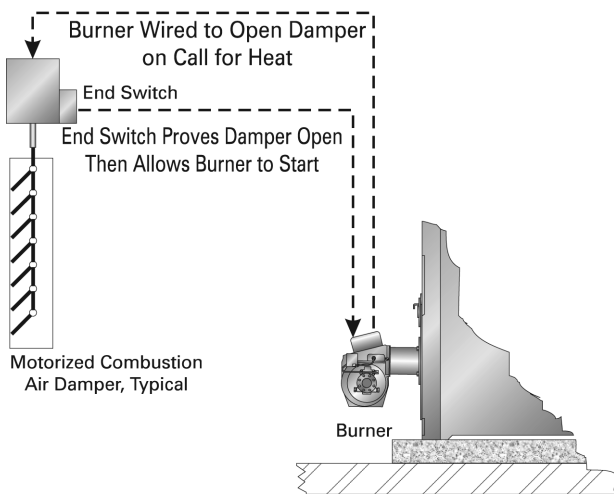

Figure 1.2: Motorized Vent Damper Interlock
- a) If motorized dampers are used on the combustion and ventilation air openings, wire them such that they must open when the boiler tries to operate. They must include a switch which prevents the boiler from operating if they do not open. See Figure 1.2.